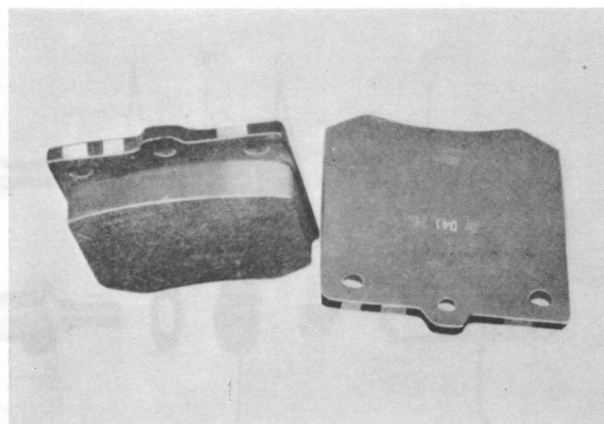

Fig. 10-12 Marks of shoe
2. Do not mix different types of linings when replacing. Designated lining is marked D41 in letter code on the back of the shoe and the material of the lining is marked in color code of blue and yellow on the shoulder. (Refer Fig. 10-12)